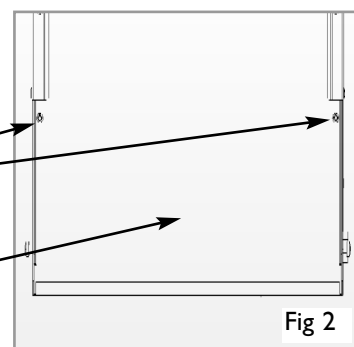

Fig 2
2. Now remove the 2 x No 8 Pozi self tapping screws, retaining the lower lamp cover plate, as shown in Fig 2, and remove the cover plate.